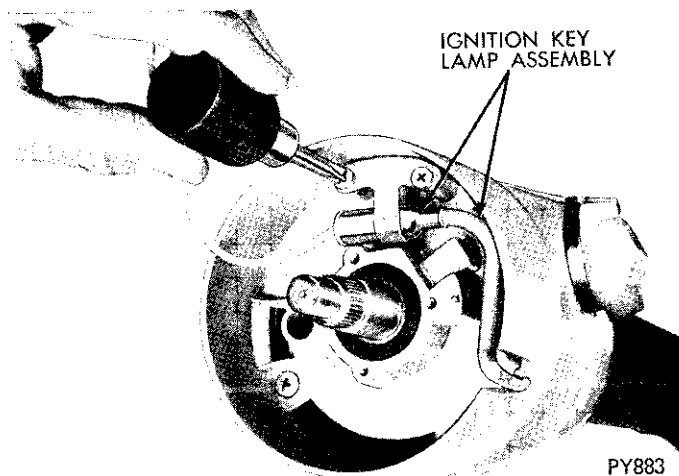

Fig. 5—Ignition Key Lamp
- (6) Remove two retaining screws and lift the ignition key lamp assembly out of the way (Fig. 5).